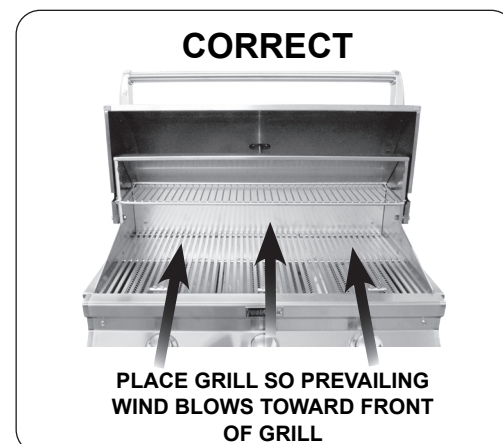

Fig. 17-3 Airflow direction - CORRECT
**CAUTION:** Wind blowing into or across the rear oven lid vent (Fig. 17-4) can cause poor performance and/or dangerous overheating. Install the grill so that the prevailing wind blows toward the front of the grill (Fig. 17-3). **A wind deflector is available for purchase to assist in proper airflow during windy conditions.** See Table 3 for model numbers. Follow the instructions included with the wind deflector for installation.